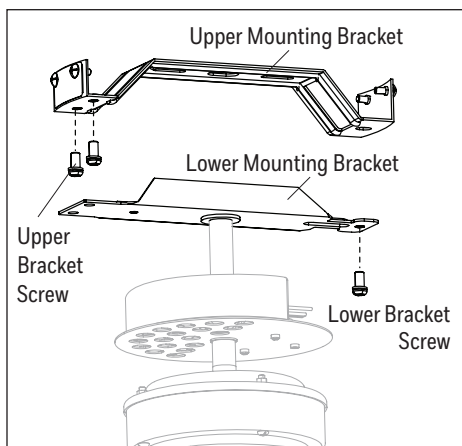

Figure 2.1
1. **Note:** Remove the wire restraint from the wires on top of the lower bracket. Remove the preassembled lower bracket screw from the lower mounting bracket and the upper bracket screws from the upper mounting bracket (Figure 2.1).